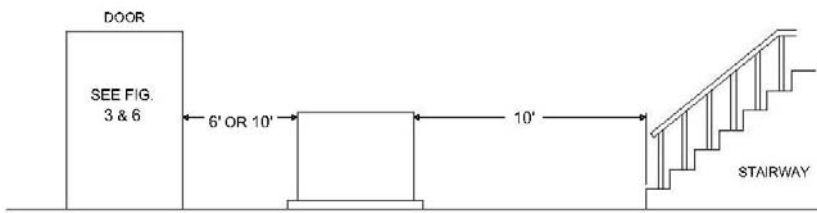

FIGURE 1
- A. Padmount transformers/equipment shall not be located directly in front of doors or stairways, beneath windows which can be opened or building overhangs, or where they will obstruct the vision of vehicular traffic. No pipes or conduits are permitted under the pad except those required for transformer connections. The front (doors) of padmount equipment shall open away from any structure. See Figures 1 - 7.
Figures 1 thru 6, show detailed clearances to buildings required for fire safety. Fire safety clearances can be reduced by constructing a suitable masonry fire barrier wall 3' from the back or side of the equipment to the side of the combustible wall (see figures below). Barriers must be at least 12' wide and 15' tall. If there is a combustible overhang on the building, that overhang must be 16' or greater from the bottom of the transformer (10' radial clearance from a 6' high transformer).